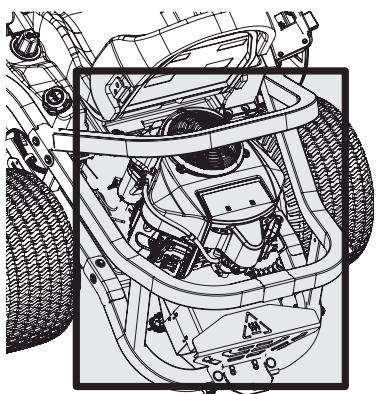

Figure 25
- Keep both sides of transmission cooling slots, exhaust manifold, around fuses, all wiring and harnesses, muffler pipe, muffler shield, engine intake screens and cooling fins, etc. clear of grass clippings and leaves (Figure 25).